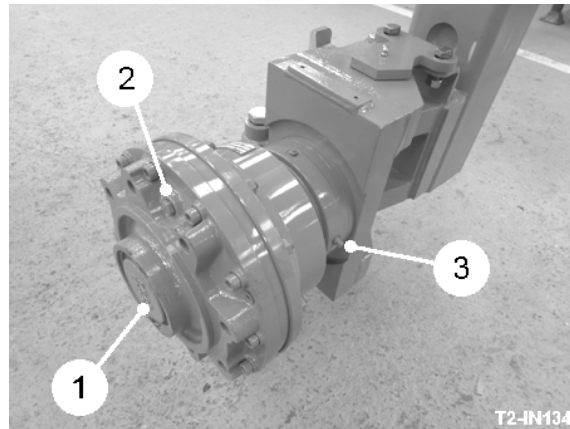

Fig 41
Place the wheel motor (item 1, fig 41) in a position in which the filler plug (item 2, fig. 41) is at the top. Remove the plug and pour in hydraulic oil until all trapped air has been eliminated. Refit the plug and repeat for the second motor. Run the motors unloaded. Finally, operate the motors under load and check for leaks and extraneous noise.
To purge dirt from the grease collar remove one of the grease nipples (item 3, fig. 41) completely and pump grease into the other nipple until clean grease comes out of the open hole. Finally, refit the nipple to close the system.